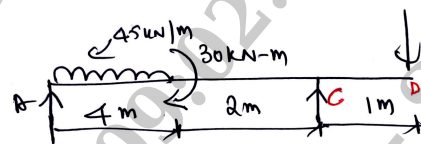

Fig.Q6(b)
- b. For the beam shown in Fig.Q6(b), find the load 'P' to have equal reactions at A and C. Draw the Bending Moment and Shear Force diagram indicating values at significant points. Locate the point of contraflexure. (12 Marks)